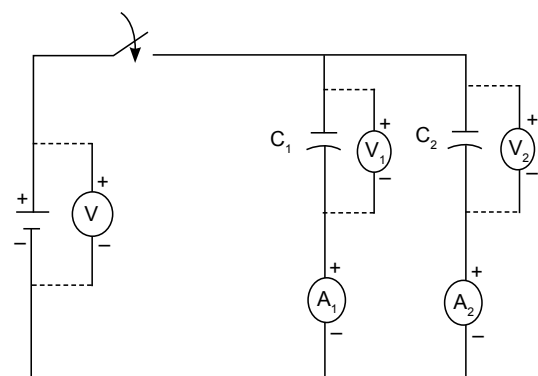

Fig. P9.2: Parallel combination of capacitors
5. Connect the capacitors in series on the bread board along with meters as given the circuit diagram, Fig.P9.2.